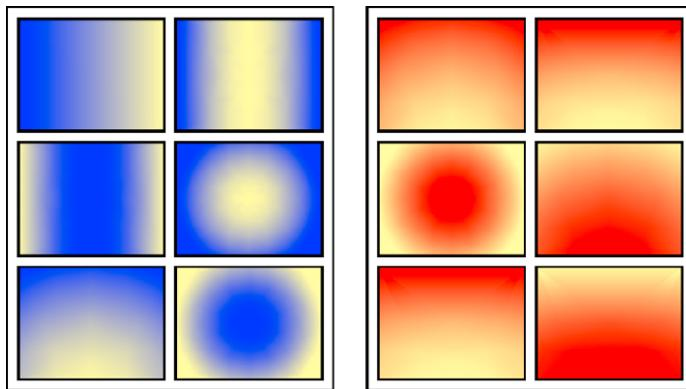

Fig. 8.12 Fourth example – Colour gradient hatching
#### Fourth example – Colour gradient hatching (Fig. 8.12)
Fig. 8.12 shows two examples of hatching from the **Gradient** sub-dialog of the **Hatch and Gradient** dialog.
1. Construct two outlines each consisting of six rectangles (Fig. 8.12).